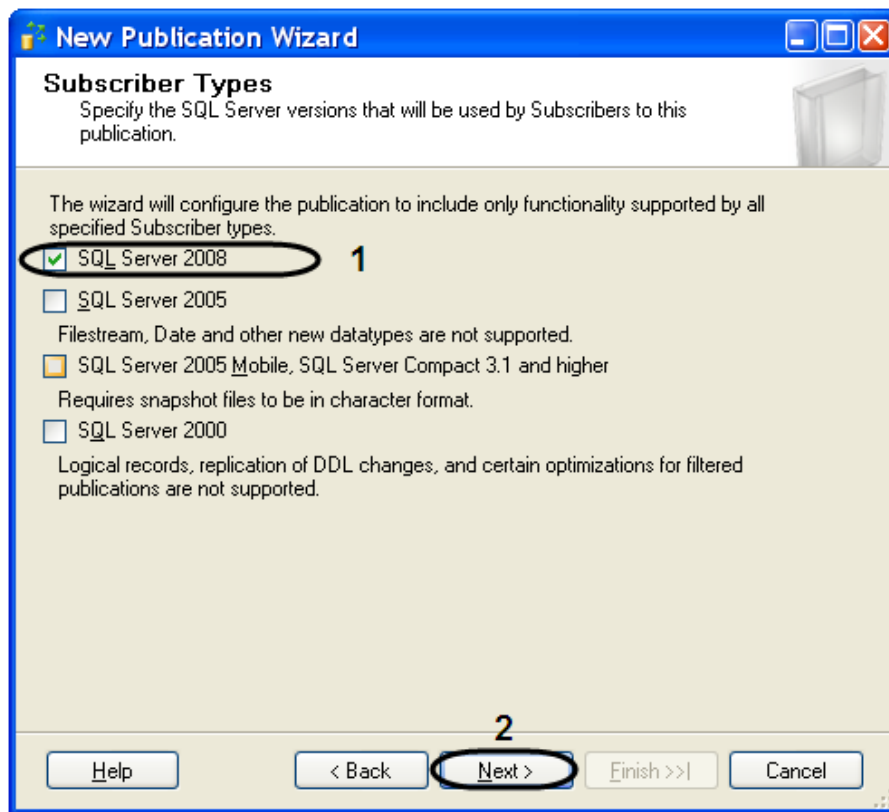

Fig. 9.3-6 Subscriber type selection
- 10.5. State the subscriber type, setting the checkbox «Sql Server 2008» (Fig. 9.3-6, 1).
- 10.6. Click Next to continue (Fig. 9.3-6, 2).